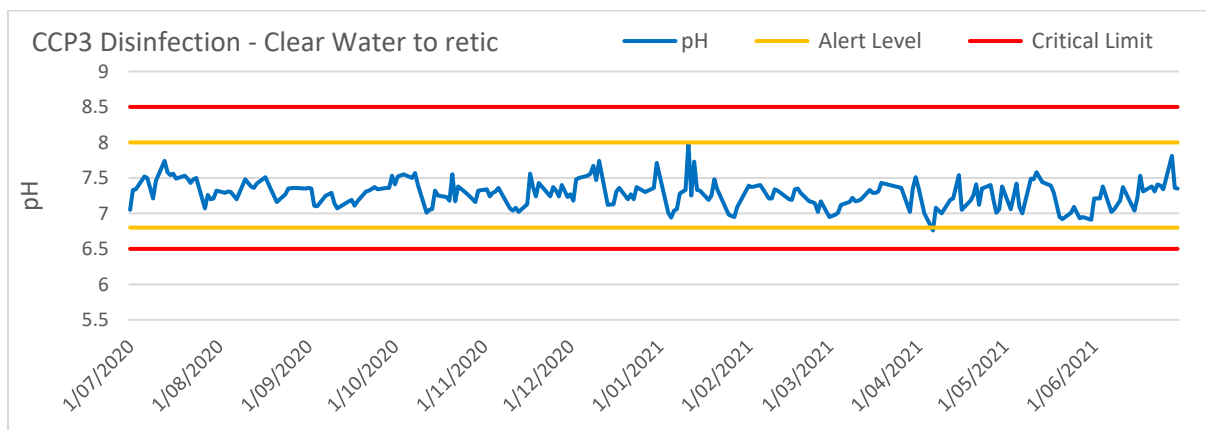

Figure 4.3.3c CCP3 Disinfection – pH Clear water to retic
A single (1) Alert Level exception was recorded from six-hundred and seventy-seven (677) samples (Table 4.1). This is a reduction of six (6) from 2019-2020. The single Alert Level exception occurred at CCP3 Disinfection (pH) on the 6/04/2021. No action was taken, the system self-corrected, as shown in the trend line of Figure 4.3.3c.